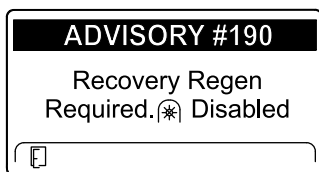

Figure 46
- Recovery regeneration required—power takeoff disabled ADVISORY #190 (Figure 46)